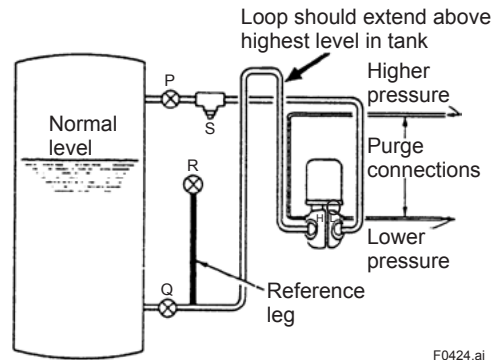

Figure 4.24 Air or Gas Purge
- (2) Air or Gas Purge (Refer to Figure 4.24)